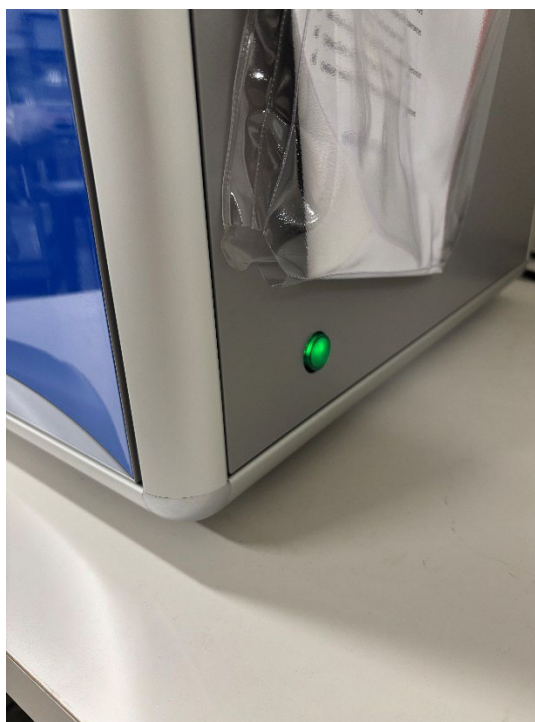

Figure 2: The green button to the front right is lit, indicating that the machine is powered on.
- 3.1.1 Turn on the TOC Vario using the green button on the right side of the analyzer. If the button is lit, and if you can hear noises from inside of the TOC Vario, then the analyzer is already on (Figure 2).